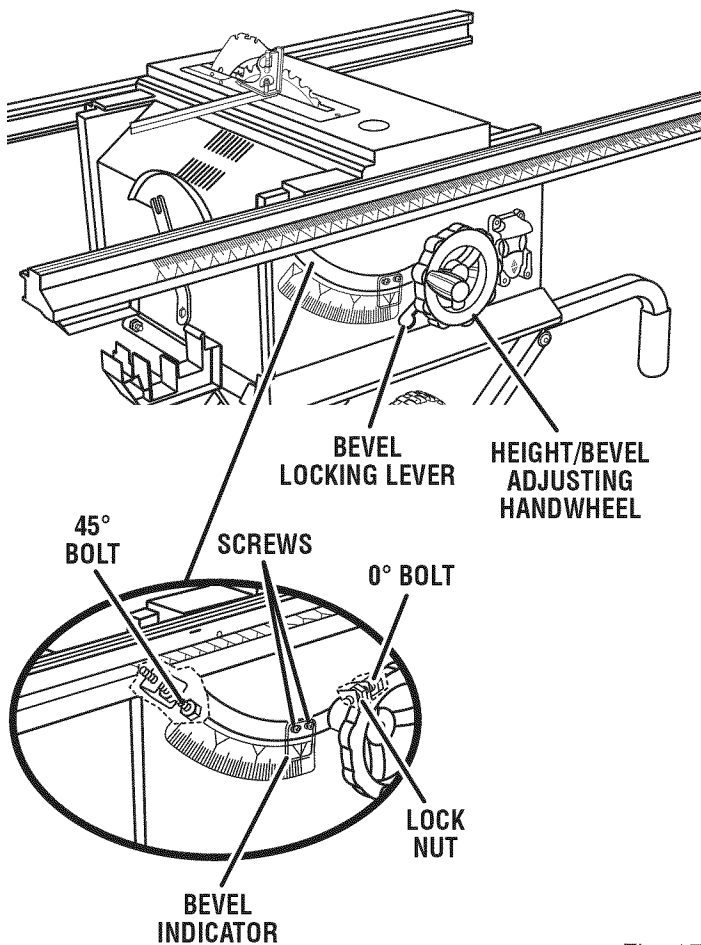

Fig. 67
See Figure 67.
- Loosen the lock nut on the 0° bolt inside the cabinet, position the blade, adjust the bolt, then retighten lock nut. See Figure 67, insert. If the bevel indicator is not at zero, adjust it with the two screws above the slot, beside the height/bevel adjusting handwheel.